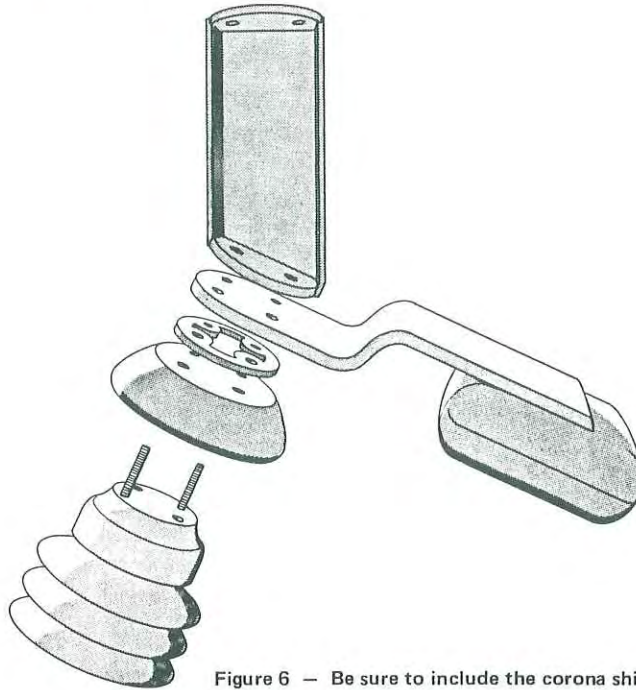

Figure 6 — Be sure to include the corona shield and the proper number of spacers.
5. Mount the jaw adaptors. Two 1/2" spacers are used between the corona shield and the adaptor. If a grounding switch jaw is to be mounted, use only one spacer (placed between the shield and the grounding switch jaw bracket), and discard the extra spacer. (See figure 6.)